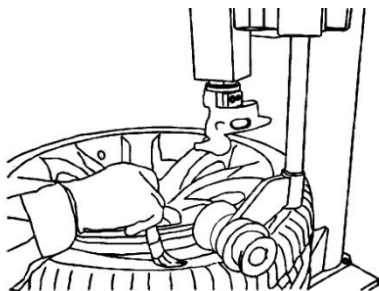

Fig. 6
- Clamp the rim using pedal (H), making sure that the wheel is in the middle of the turntable.
- Press the tyre down with the assistant arm (P) to aid with the lubrication (Fig. 6).